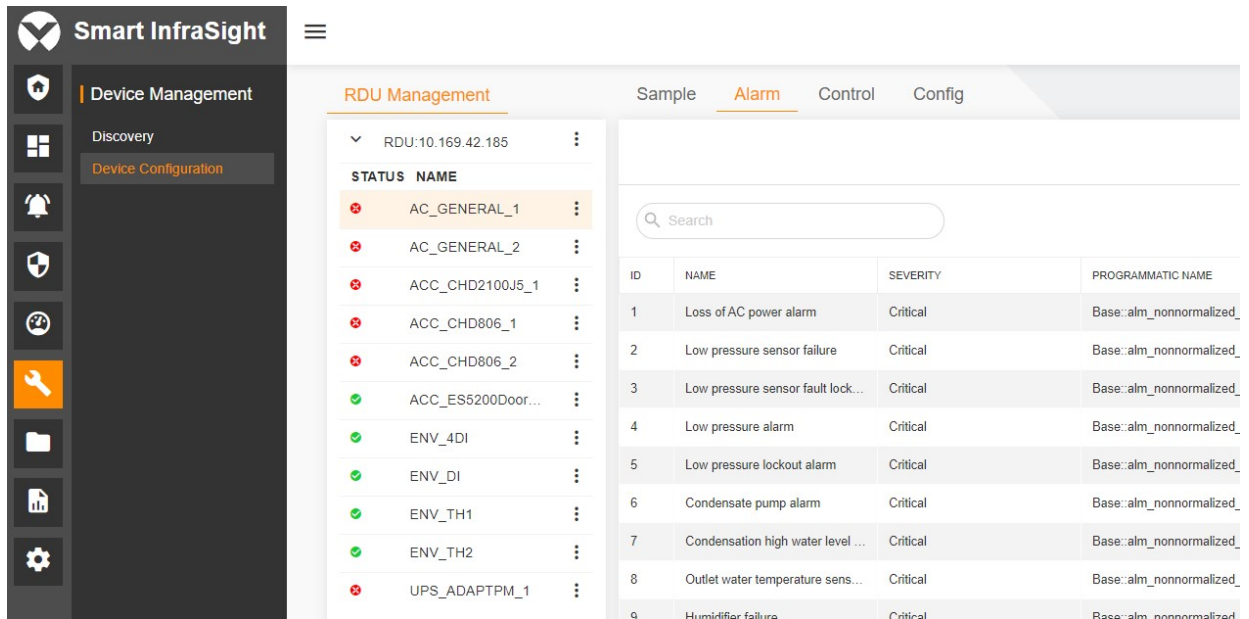

Figure 6-27 Displaying the alarm list
1. Click any device row under the RDU. The alarm list of the device is displayed on the **Alarm** tab page accordingly. When the **Device Configuration** page is loaded initially, the first device under the first RDU is selected by default (as shown in Figure 6-27).